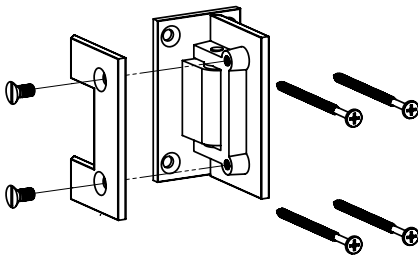

figure 30
1. Locate the hinges, remove the side plate by removing the screws (fig. 30).